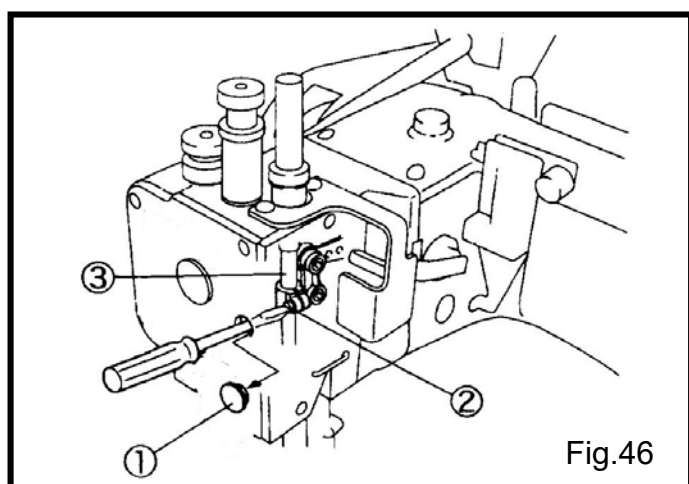
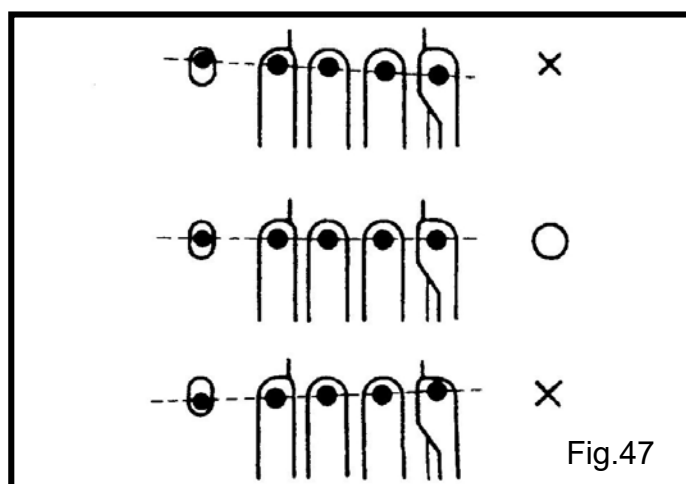

Fig.46
Fig.47
- (1) 移開油塞①。(Fig.46)
- (2) 鬆開螺絲②。
- (3) 上下移動針柱③去調整，針與針孔須保持平行。(Fig.47)
- (4) 鎖緊螺絲②。
- (5) 裝回油塞①。
- (1) Remove the seal plug ①.(Fig.46)
- (2) Loosen the screw ②.
- (3) Move the needle bar ③ up or down to adjust the height. Check the alignment.( Fig. 47.)
- (4) Tighten the screw ② securely.
- (5) Reset the seal plug ①.